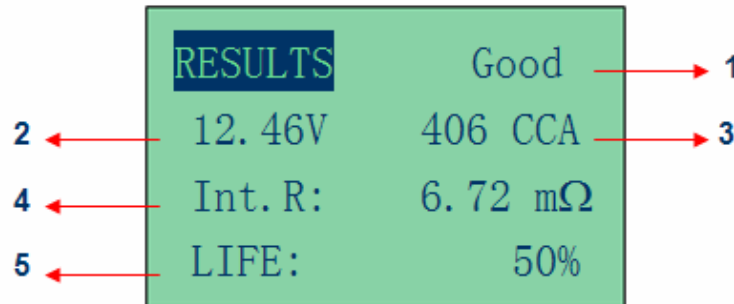

Figure 16
12. For less than 5 seconds, the results of the testing will be displayed on the LCD screen. (Fig. 16)